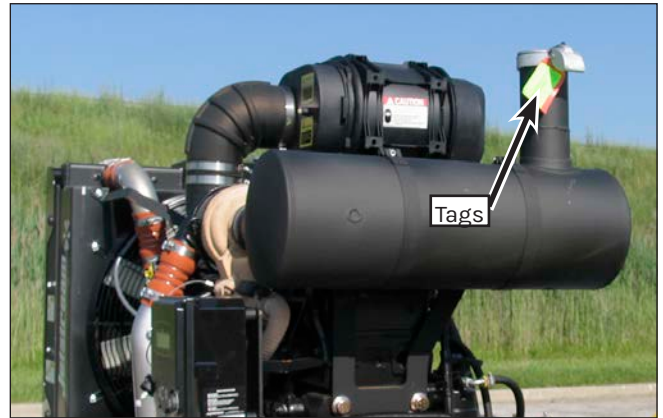

Figure 30: Typical Exhaust Stack.
2. (For trailer and skid units) The exhaust stack rain cap (Figure 30) will be tie-wrapped shut for transport. Remove the tie wrap and tags from the engine exhaust stack.